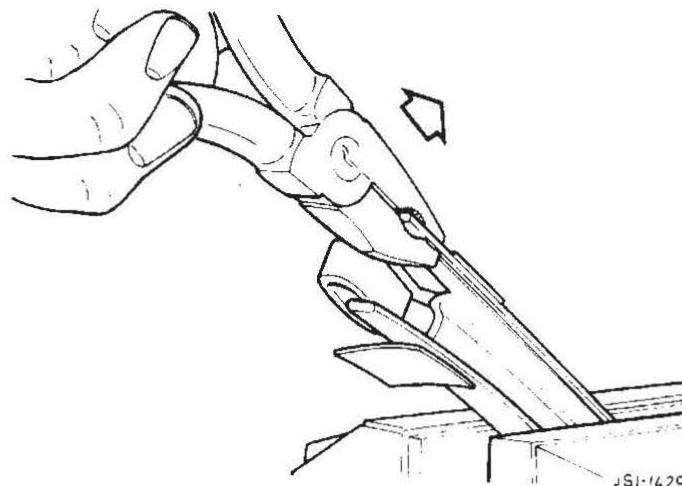

FIG 3
6. To open-up the channel, using soft face jaws, secure it firmly in a vice (Fig 3). Using a pair of pliers; equally bend each side of the channel outward until the increased channel width of 26,0 to 28,0 mm is achieved (A Fig 3).